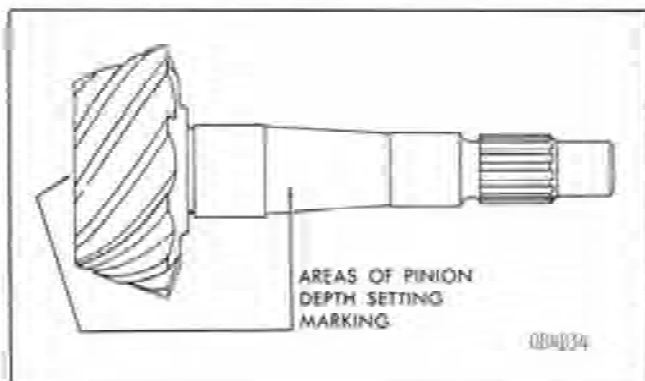

Fig. 24 Pinion Marking All Axles
- b. Drive pinions that are marked, "+" (plus), the shim thickness indicated by the Dial Indicator on the Pinion Setting Gage must be INCREASED by the amount on the drive pinion, see Fig. 24.
- c. If the drive pinion is marked "-" (minus) the shim thickness indicated by the Dial Indicator on the Pinion Setting Gage must be DECREASED by the amount on the drive pinion, see Fig. 24.